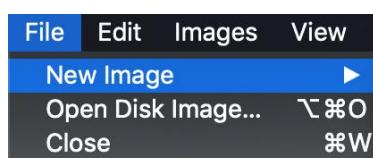

Figure 5.10 – New Image menu
5. In the menu bar, select **File | New Image** (*Figure 5.10*):